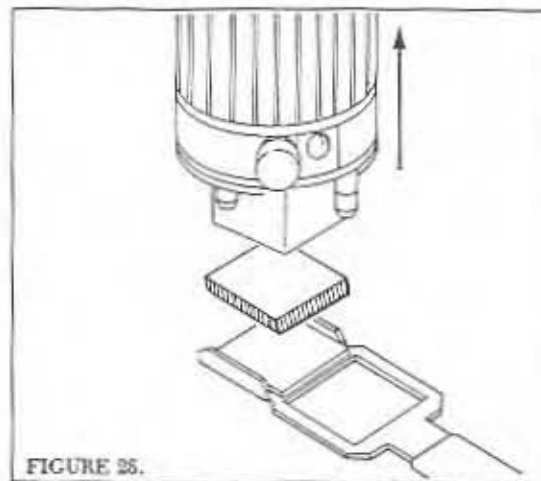

FIGURE 26.
3. Holding the Nozzle in the right hand, line up the four notches on the nozzle flange with the four Alignment Posts on the bottom of the Heater Assembly. See figure 26.